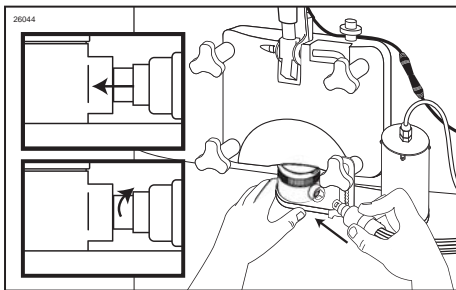

Figure 141
8. Fully insert the 9-Tube Assembly into the Injector Head syrup line opening and rotate it until motion stops to secure. (See Figure 141.)